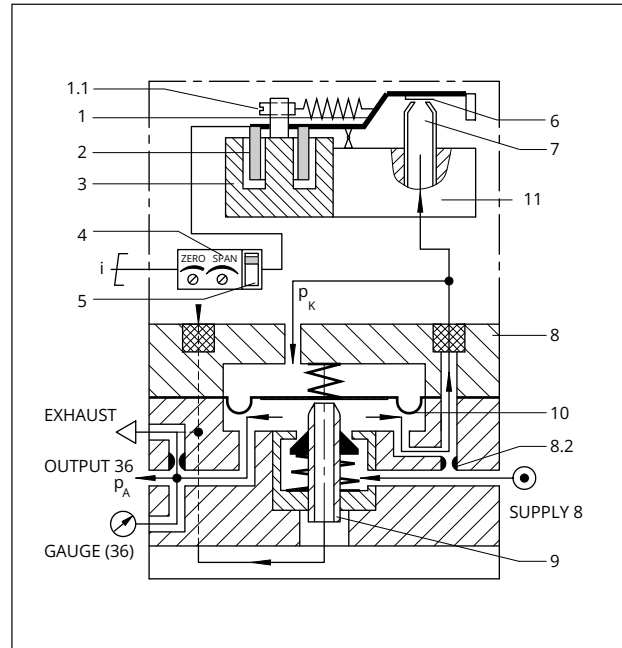

Fig. 18: Functional diagram
If the device does not have a zero potentiometer, the zero point can only be adjusted mechanically at the zero point adjuster (1.1, Fig. 18). See Chapter 6.2. Some versions also do not have a potentiometer to adjust the span.
The **ZERO** and **SPAN** potentiometers are accessible after opening the enclosure cover (see Fig. 18).
If the device does not have a zero potentiometer, the zero point can only be adjusted mechanically at the zero point adjuster (1.1, Fig. 18).
- ⇒ See Fig. 18.